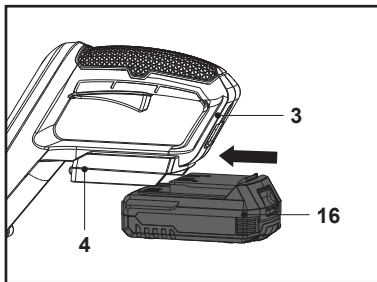

Fig. 2
1. Align the battery pack (16) with the sliding slots of the battery docking port (4) under the rear safeguard (3) and slide the battery pack (16) in to attach it. Ensure it clicks in place (Fig. 2).